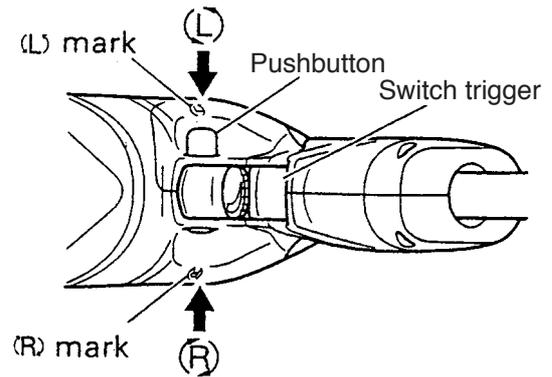

Fig. 2
#### (2) Checking the rotational direction (Fig. 2)